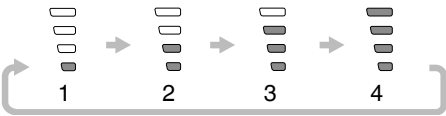

Fig. 20
- (1) High / Low mode selector switch (Fig. 20)